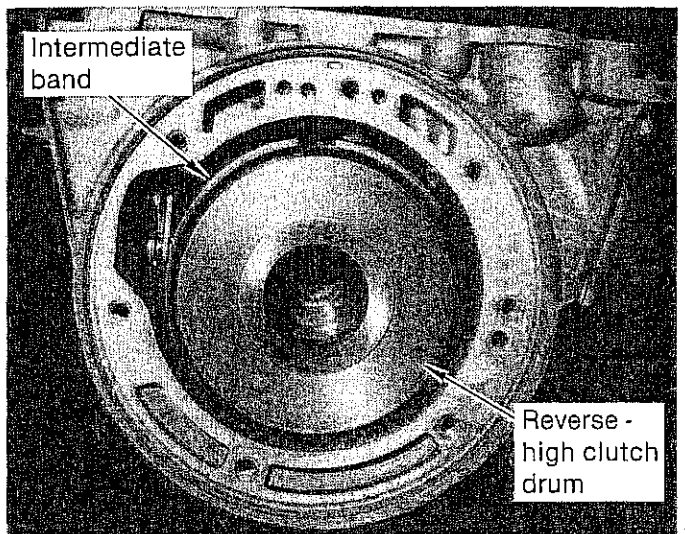

FIGURE 9
STEP 5. Remove the intermediate band. (See Fig. 9) Some models have a thick formed band, others have a thin flex band. Set the band aside.
STEP 6. Remove the reverse-high clutch drum. (See Fig. 9) The geartrain will separate as you remove the components. Set the clutch drum aside.